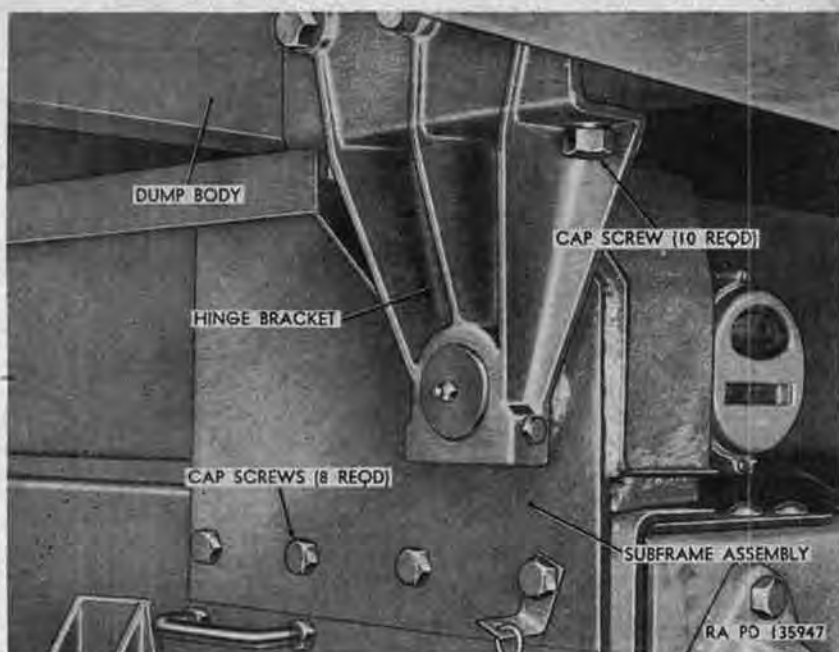

Figure 326. Left rear corner of dump body M51.
- (5) Remove 10 cap screws (fig. 326), lockwashers, and hex nuts securing 2 hinge brackets to rear corners of dump body.
- (6) Attach chain sling and overhead hoisting equipment to dump body, and lift body from subframe.
- (1) Using chain sling and overhead hoisting equipment, position dump body (fig. 326) on subframe.
- (3) Aline holes in hinge brackets (fig. 326) with holes in rear corners of dump body, and secure hinge brackets to body with 10 cap screws, lockwashers, and hex nuts. Tighten cap screws and nuts.
- (1) Remove dump body (par. 308).
- (2) Remove both hoist cylinders (*a* above).
- (3) Remove hydraulic pump (par. 310).
- (4) Remove control relay (par. 311).
- (5) Remove control valve (par. 312).
- (6) Remove eight cap screws (fig. 326) and safety nuts securing brackets at rear end of subframe to frame side rails.
- (3) Secure brackets at rear corners of subframe (fig. 326) to frame left and right side rails with eight cap screws and safety nuts. Tighten screws and nuts.
- (4) Install control valve (par. 312).
- (5) Install control relay (par. 311).
- (6) Install hydraulic pump (par. 310).
- (7) Install two hoist cylinders (*b* above).
- (8) Install dump body (par. 308).